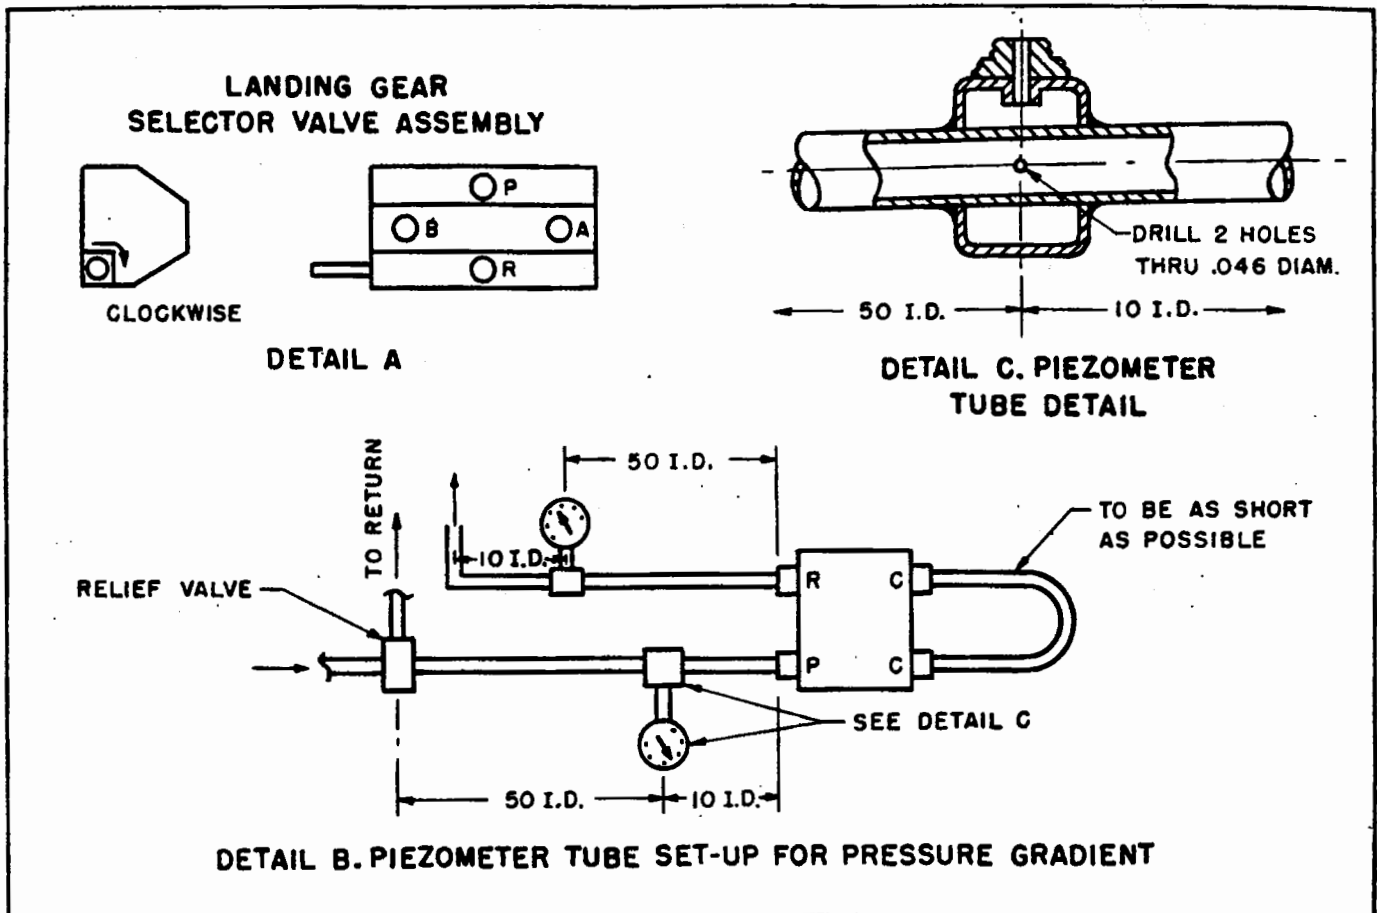

Figure 4-103A. Test Setup for Landing Gear Selector Valve.
4-981. TESTING. (See figure 4-103A.) Prior to installation of the landing gear selector valve, the following test must be made:
- d. Using set-up shown in Figure 4-103A (detail B), supply 6.0 gpm to pressure port. With shaft rotated 20 degrees counterclockwise from neutral, pressure gradient from pressure to one cylinder port plus pressure gradient from second cylinder port to return port shall not exceed 120 psi. Repeat test rotating shaft 20 degrees clockwise.